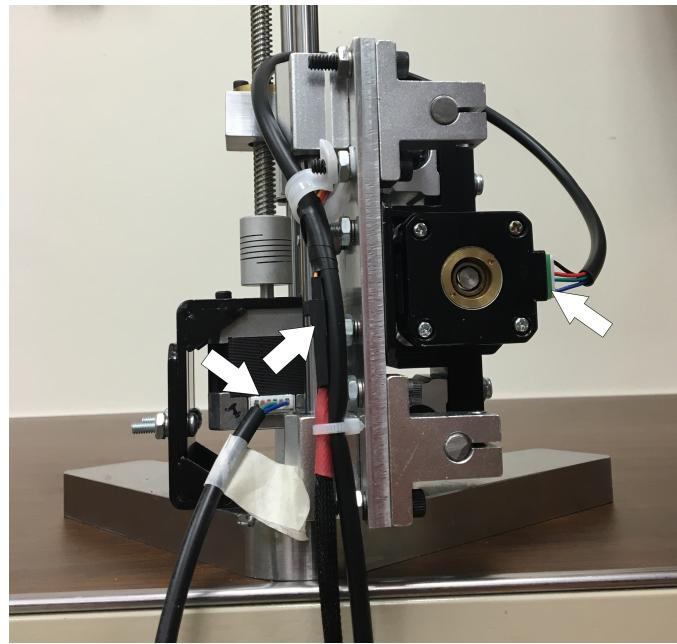

Figure 5: Molex cables secured and out of the way
12. Ensure the three molex cables are securely plugged in to the ARIA (see Figure 5)